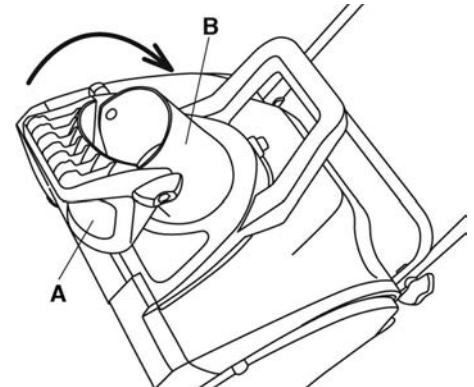

FIGURE 9
8. Loosen the two knobs on the chute deflector (A) Fig.9. Lift the chute deflector (A) so that it snaps and locks securely onto the discharge chute (B).